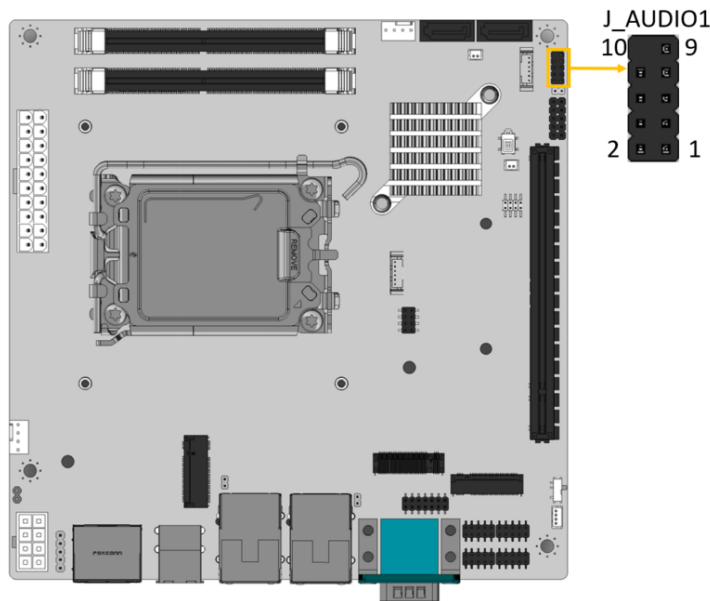

Figure 3-2: Audio Connector Location
- CN Location:** See Figure 3-2